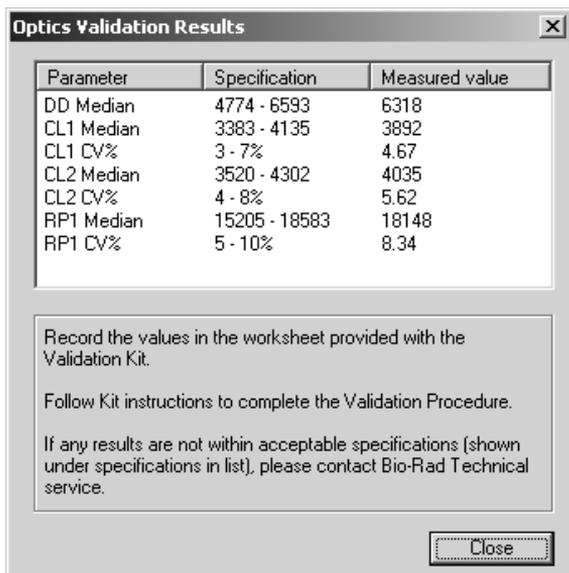

Fig. 5. Optics validation results.
12. When the procedure has been completed, the results will be displayed in a dialog box as shown in Figure 5.
6. Select Instrument from the main menu. Select Validation from the pull-down menu. A dialog will appear. Enter user name and control number. Select Reporter Validation. Select OK. The following dialog appears: (Figure 5)